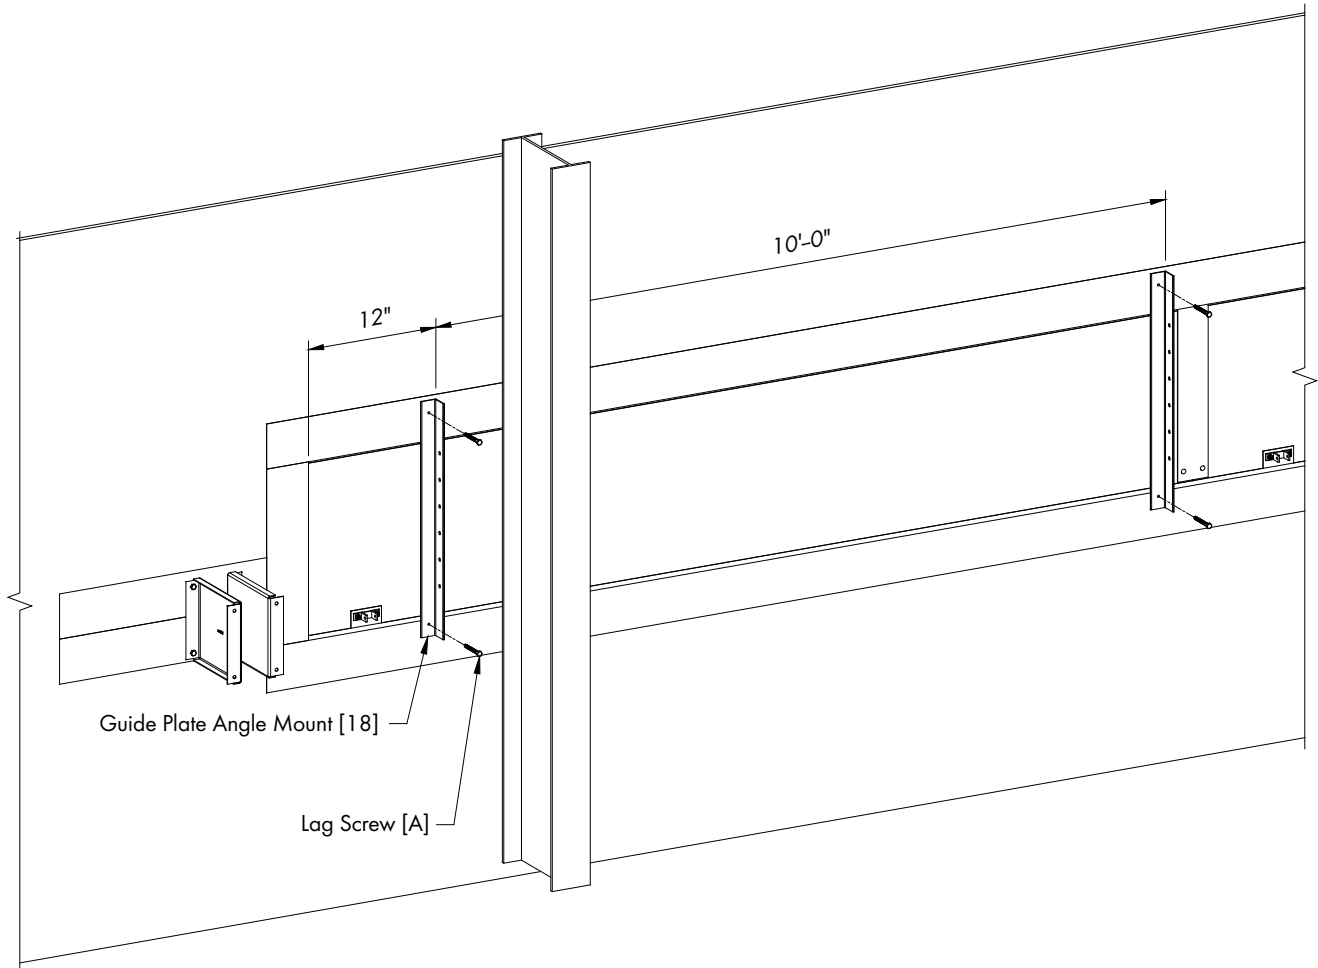

Figure 29
Secure a Guide Plate Angle Mount [18] to the top and bottom framing, 12" from end framing using (2) Lag Screws [H]. Then mount (1) Guide Plate Angle Mount [18] every 10'-0" O.C., with the last Guide Plate Angle Mount [18] being 12" before the end framing. See Figure 29. Make sure the Angle Mounts are mounted square to the framing.